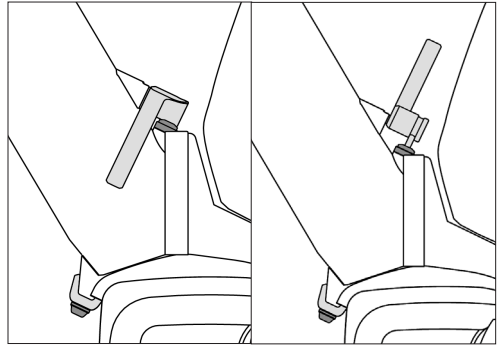

Fig. 30: Open the frame quick release.
3. Open the frame quick release by lifting up on the lever (fig 30).
4. Ensure the frame quick release is in the open position (Fig. 30 page 35).